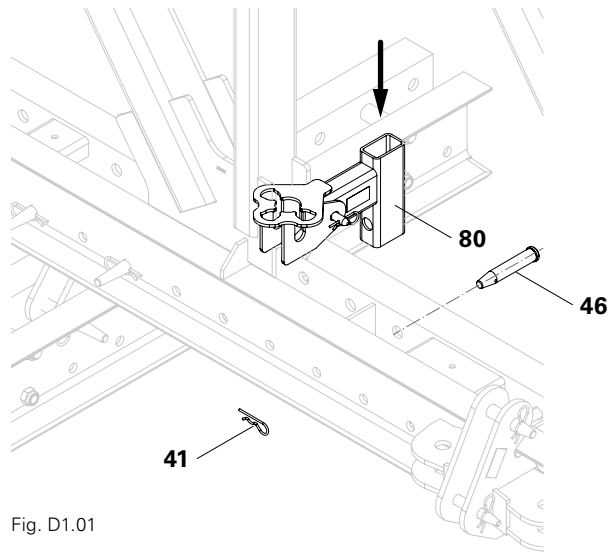
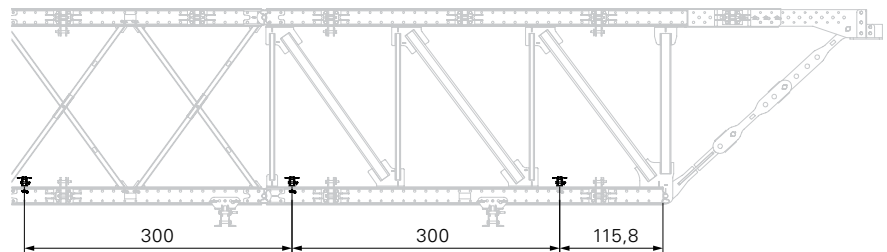

Fig. D1.01
Fig. D1.02
1. At a distance of 115.8 cm, insert the Connector UP-VRB (80) between the two guardrails of the bottom chord. (Fig. D1.01)
2. Fit bolts (46) and secure with cotter pins (41).
3. Fit additional Connectors (80) at a distance of 300 cm. (Fig. D1.02)